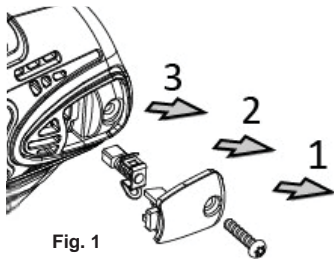

Fig. 1
- A. Use screwdriver to disassemble the screw from rear cover of the housing, then take out carbon brushes from both right and left sides. (See Fig. 1)